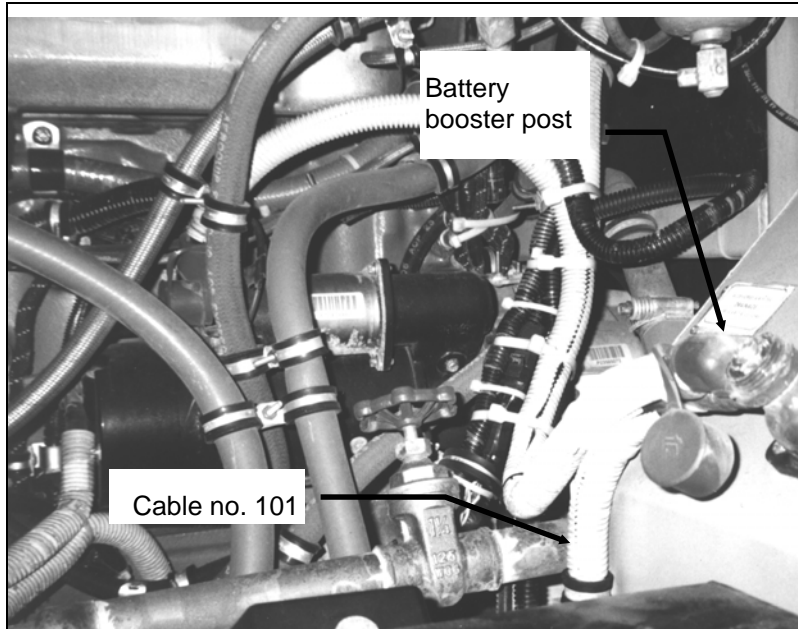

FIGURE 1: CABLE LOCATION
1. In the engine compartment, locate cable 101A (Fig. 1).
- Make sure battery cut-out switch is set to OFF and disconnect cable from the battery booster post (Fig. 1).
6. In engine compartment, disconnect cable from the battery booster post (Fig. 1).
11. Connect new cable (Prevost #061028) to battery booster post (Fig. 1) and torque nut at 30-35 lbf•ft (40-47 N•m).